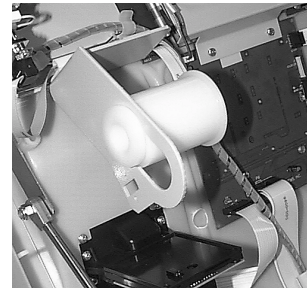

Figure 6-3B The Paper Spool in position for removal.
3. Push the paper spool (or partial roll of paper) from its location in Figure 6-3A to the position shown in Figure 6-3B.